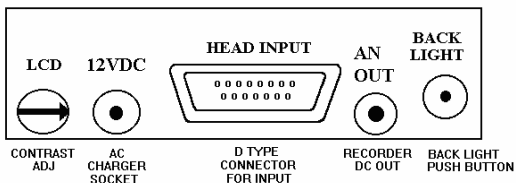

Figure 4
1. Push up the slide switch on the left side of the Nova display. (See Figure 4)